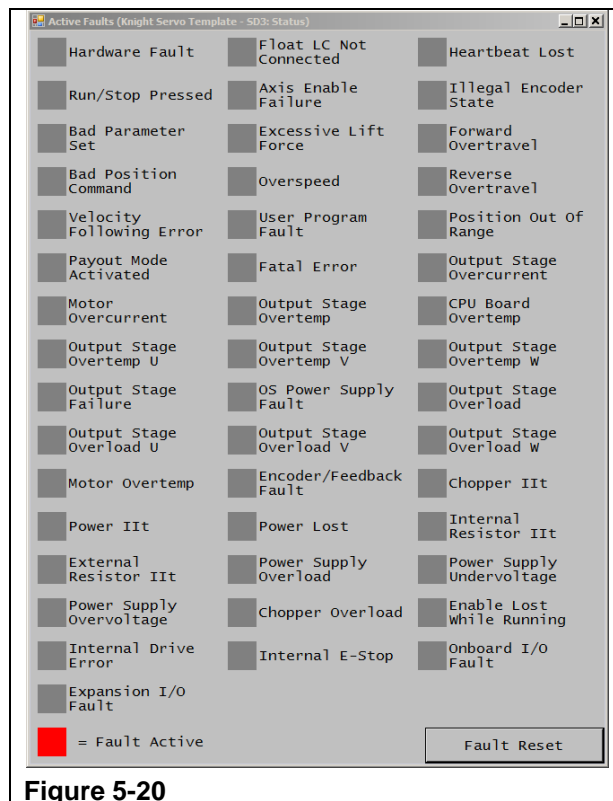

Figure 5-20
- Step 20. Check for any Drive Faults. A fault will be designated by an illuminated red box next to the fault's description on the Active Fault screen. See Chapter 7.B. for details. (Refer to Figure 5-20)